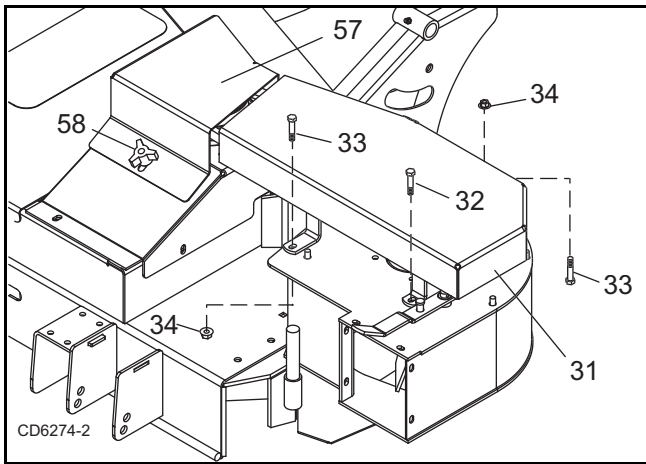

Figure 9. Belt Shield Installation
1. Place belt shield (31) over vacuum housing. Secure using two whiz bolts (33), whiz nuts (34), and one whiz bolt (32) as shown in Figure 9.
2. Install drive shield (57) and secure with two knobs (58).